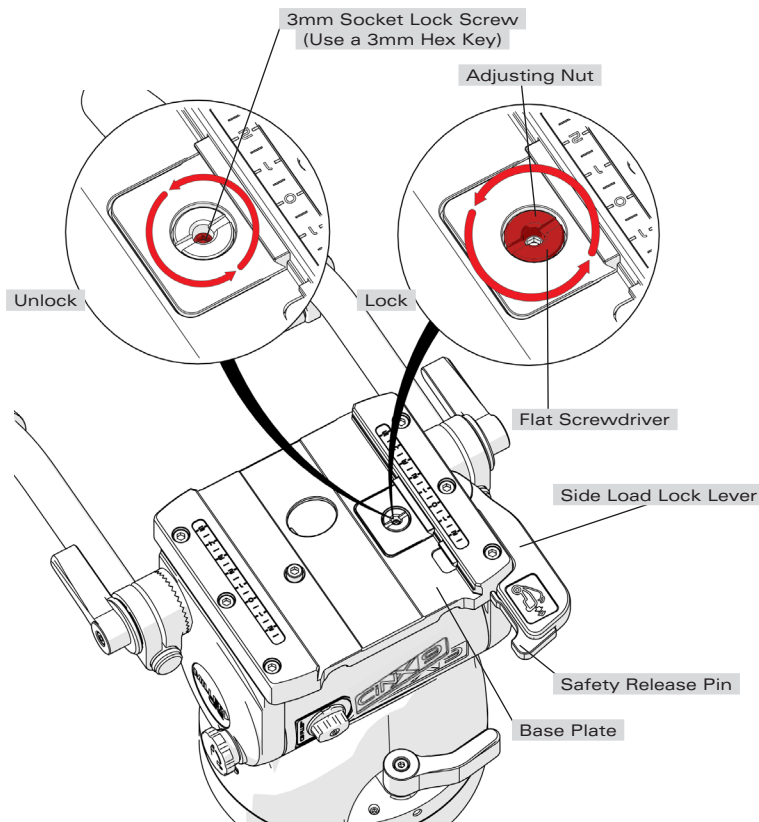

Fig. 8
- 3.2 With the CAMERA PLATE in place, gently push the SIDE LOAD LOCK LEVER towards the BASE PLATE until resistance is felt – this is the start of the locking action. Check the position of the SIDE LOAD LOCK LEVER as shown in Fig. 8.
- 3.3 Adjustment is necessary if the SIDE LOAD LOCK LEVER position is outside the recommended range. Follow Fig. 8 to determine the correct method of adjustment.
- 3.4 Using a 3 mm Hex key unlock the LOCK SOCKET SCREW (fig. 8), then using a broad flat screw driver turn the ADJUSTING NUT (fig. 8) in the direction shown by 1/8 of a turn and re-check step 3.2, repeat 3.4 if necessary. When adjusted correctly, the SIDE LOAD LOCK LEVER will be smooth to operate and require modest effort to lock the CAMERA PLATE (fig. 9).